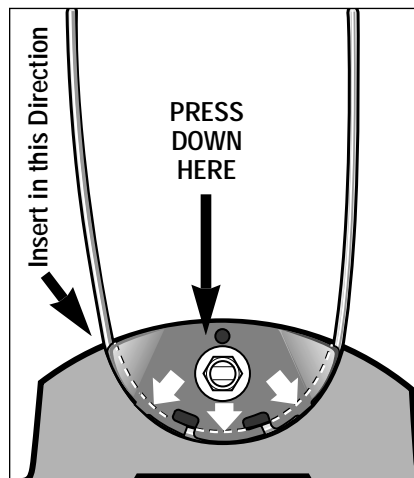

Figure 5-12: Correct position of newly installed line.
3. Feed the new 18" long trimmer line under the clamp plate, positioning it as far back as possible next to the arc (into the groove) of the trimmer head, so the downward-facing prongs of the clamp plate make contact with the line. (Putting gentle downward pressure on the outer edge of the clamp plate will ease installation.) See Figure 5-12 to see how the new line should be positioned. An equal amount of line should project out from each side of the clamp plate, creating an overall 22" wide cutting swath. You may offset both trimmer lines somewhat to increase the cutting swath up to 25" wide. DO NOT offset the line so that the overall cutting swath is greater than 25". See Warning statement at right.